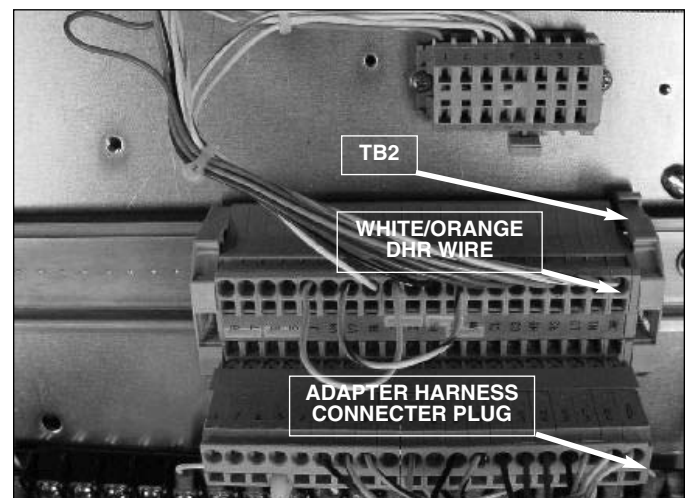

Figure 6.
9. Plug the harness plug end into TB2. Terminal 8 and terminal DHR must line up with 8 and DHR on the TB2 terminal board (See Figure 6).